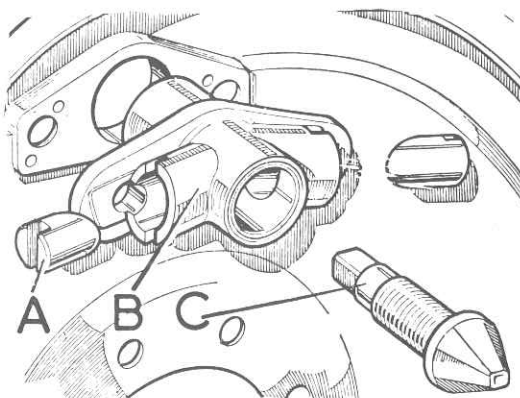

Fig. 9.21. Rear wheel brake adjuster (Series II, LWB)
- 9 Refit the wheel cylinder(s) using the reversal of the removal procedure. Check the operation of the brake adjuster and if necessary, remove, clean and lubricate the plungers and threaded adjuster cone (see Fig. 9.21).